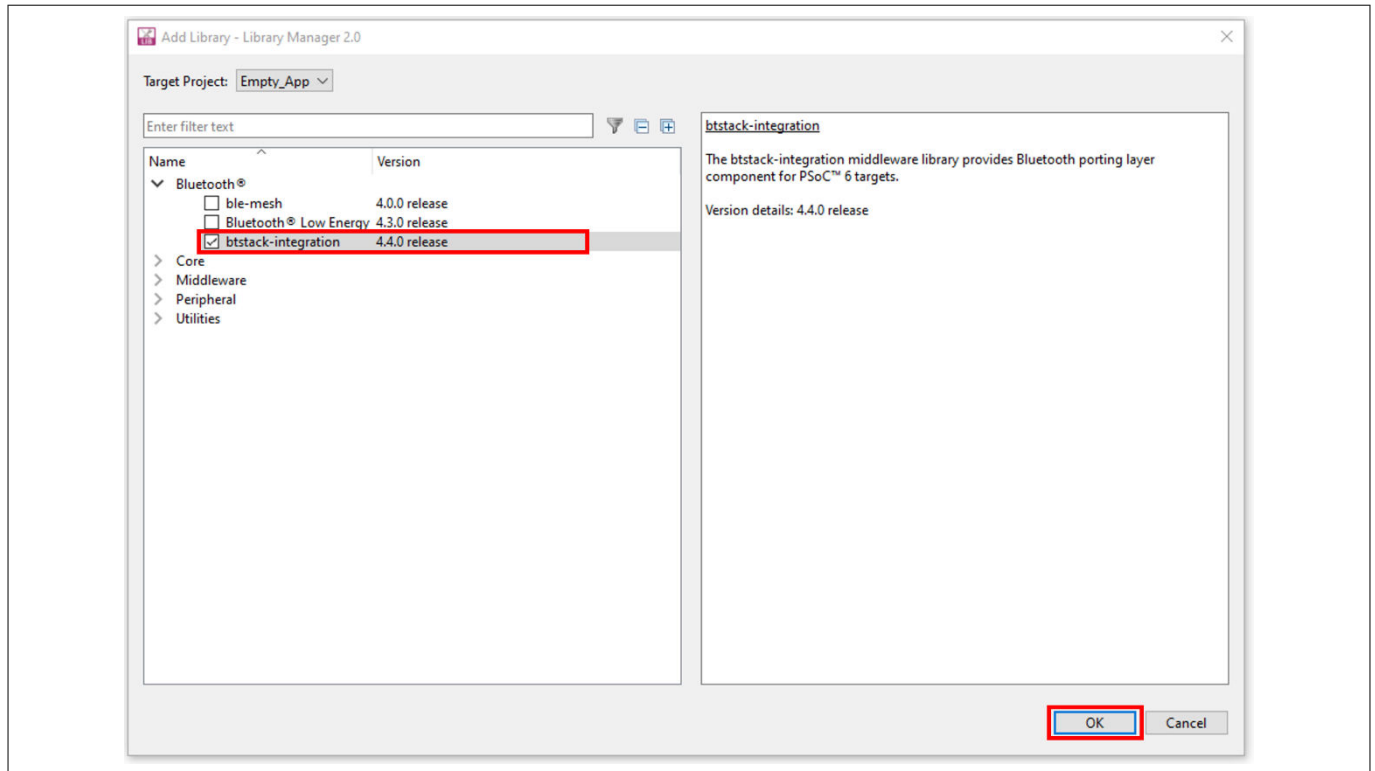

Figure 17 Add btstack library and btstack-integration middleware
- Next, you add the AIROC™ BTSTACK, which is a software implementation of the Bluetooth® core 5.4 Host protocol stack. AIROC™ BTSTACK requires a porting layer specific to the device that it is running on. Therefore, you will add the btstack integration porting layer, which sets up the physical transport required for HCI traffic, memory, threads, and other OS constructs required by the stack library. Click on **Add Library** and select **Bluetooth** > **btstack-integration** (see Figure 17 for this option). Note that selecting btstack-integration selects the required version of **btstack**. Do not have to explicitly select btstack unless a specific version is required. Along with btstack, btstack-integration also adds dependency libraries **abstraction-rtos** and **freertos**. The files necessary to use the btstack integration middleware are added in the mtb_shared > btstack-integration folder and the .mtb file is added to the deps folder